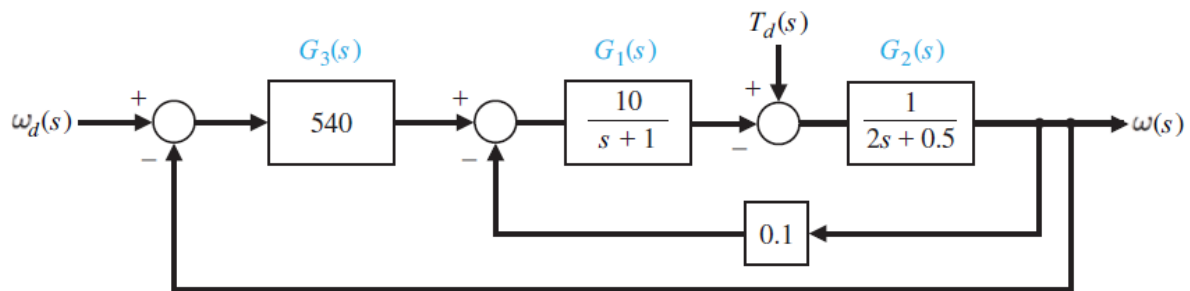

Figure 2. Example for the Experiment-2
7. Obtain the transfer function for the system given in Figure 2.
- 8.Obtain the step response for the system in Figure 2 by using computer programs (like Matlab or Scilab)
- 9.Use the computer program (Matlab or Scilab) to obtain transfer function for the system in Figure 2.